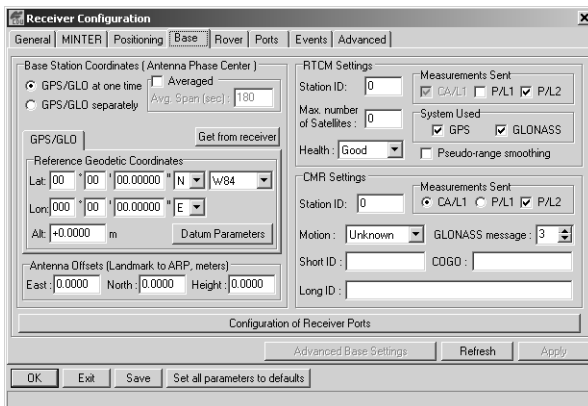

Figure 3-9. Base Tab Configuration
11. Select the **Base** tab and set the following parameters (Figure 3-9):